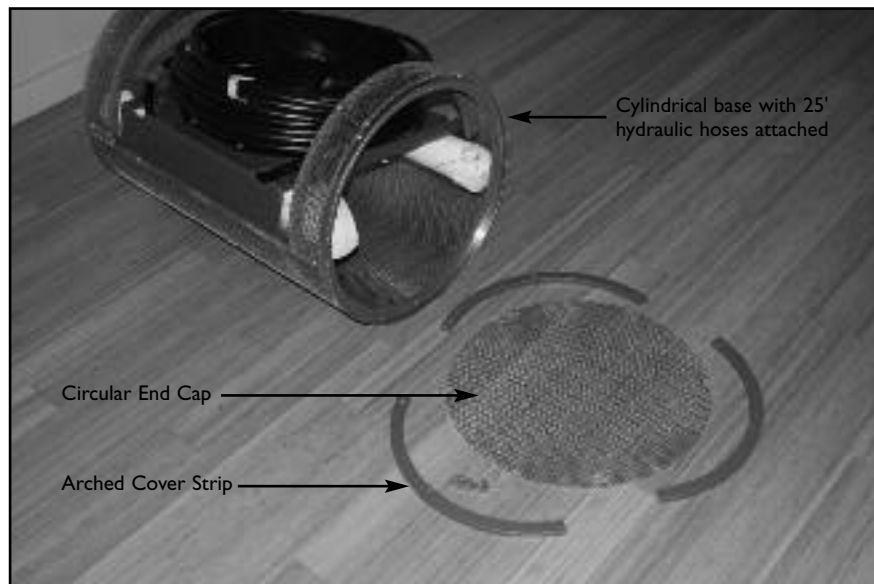

Fig. 9.1
- 9.2** Take care when handling or working with any of the stainless steel components of the swim unit. The ends can be sharp. The first step is to remove the two circular end caps from each side of the cylindrical base. There are 3 arced cover strips around the perimeter of each end cap. Unthread the nine screws that secure the cover strips (3 screws per cover strip). Carefully set each end cap aside (Fig 9.1).